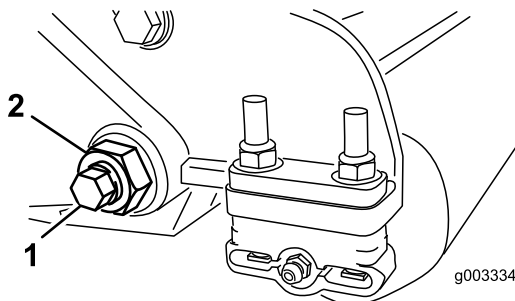
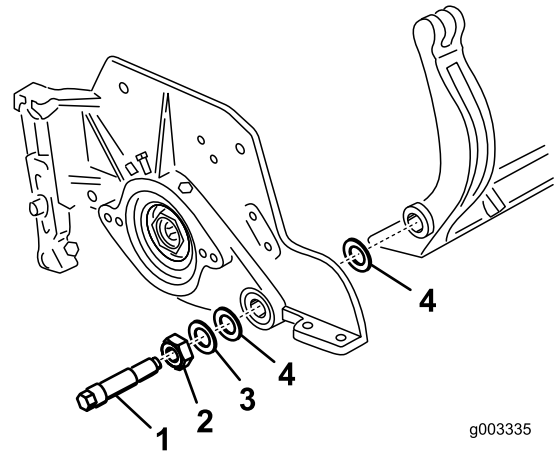

Figure 29
Figure 30
2. Back out the spring tension nut, until the washer is no longer tensioned against the bedbar (Figure 29).
3. On each side of the machine, loosen the lock nut securing the bedbar bolt (Figure 29).
4. Remove each bedbar bolt allowing bedbar to be pulled downward and removed from machine bolt (Figure 29). Account for 2 nylon and 1 stamped steel washers on each end of bedbar (Figure 30).
2. Secure bedbar to each side plate with bedbar bolts (nuts on bolts) and 6 washers. A nylon washer is to be positioned on each side of side plate boss. Place a steel washer outside each of the nylon washers (Figure 30). Torque bedbar bolts to 27-36 N-m (240-320 inch-lb).
3. Tighten locknuts equally on each side until the outer steel washers cannot be rotated by hand. Then loosen the locknuts until the outer steel washers just rotate by hand, yet bedbar end play is removed (Figure 30).
9. Secure the bedbar to each side plate with the bedbar bolts (nuts on bolts) and 6 washers. A nylon washer is to be positioned on each side of side plate boss. Place a steel washer outside each of the nylon washers (Figure 32). Torque bedbar bolts to 27-36 N-m (240–320 in-lb). Tighten locknuts until the outside steel washer stops rotating and end play is removed but do not overtighten or deflect side plates. Washers on inside may have a gap (Figure 30).